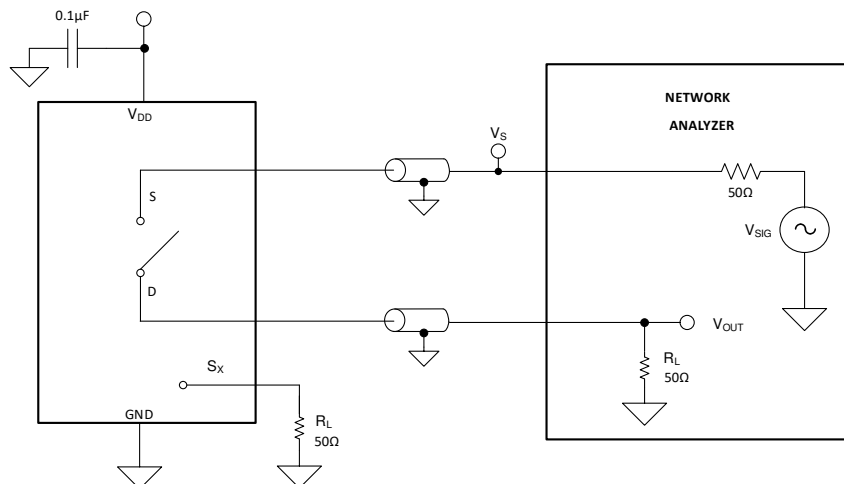

**Figure 12. Charge-Injection Measurement Setup**
The TMUX1219 has a transmission-gate topology. Any mismatch in capacitance between the NMOS and PMOS transistors results in a charge injected into the source or drain of the device during the falling or rising edge of the gate signal. The amount of charge injected into the source or drain of the device is known as charge injection, and is denoted by the symbol  $Q_C$ . Figure 12 shows the setup used to measure charge injection from Drain (D) to Source (Sx).